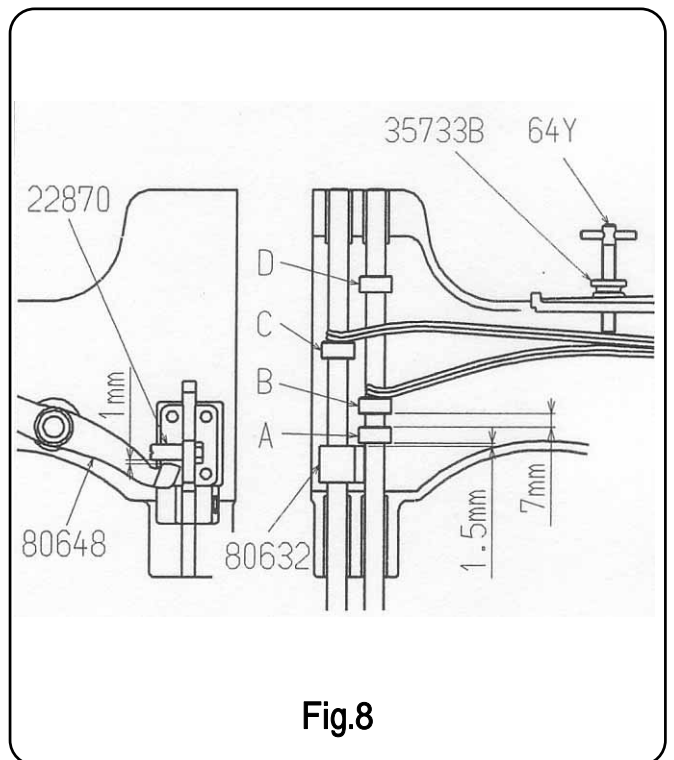

Fig.8
4-6) INSTALLING PRESSER BAR AND ADJUSTING PRESSER FOOT PRESSURE (Figure 8)
- 1) Adjust and set the presser bar holder (80632) so that the clearance between the presser lifter lever (80648) and the presser lifter pin (22870) is 1mm, as shown in (Figure 8).
4-6) 押工棒の取付けと押工金圧の調整 (Fig 8)
- 1) 押工揚ゲピン(22870)の隙間が Fig8 で示す通り1mm になるように押工棒ダキ(80632)をセットする。